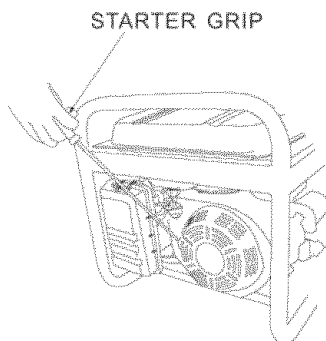

Figure 8- Pulling the start cord
6. Pull on the recoil starter handle slowly until a slight resistance is felt (see figure 8). Then pull quickly to start the engine. Return cord gently into the machine. Never allow the cord to snap back.
7. If engine fails to start, repeat step 4. **NOTE: After repeated attempts to start the engine, please consult the troubleshooting guide before attempting again. If problems persist please call (888) 315-3080 M-F 8-5 CT.**